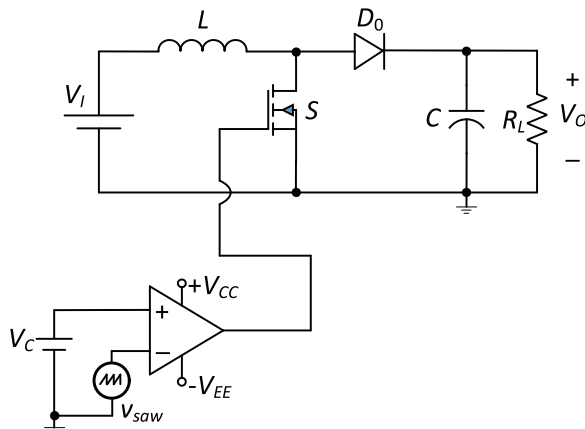

Figure 29.1 Circuit diagram of the PWM boost dc–dc converter with the pulse-width modulator.
1. Construct the circuit shown in Figure 29.1 on the circuit simulator.